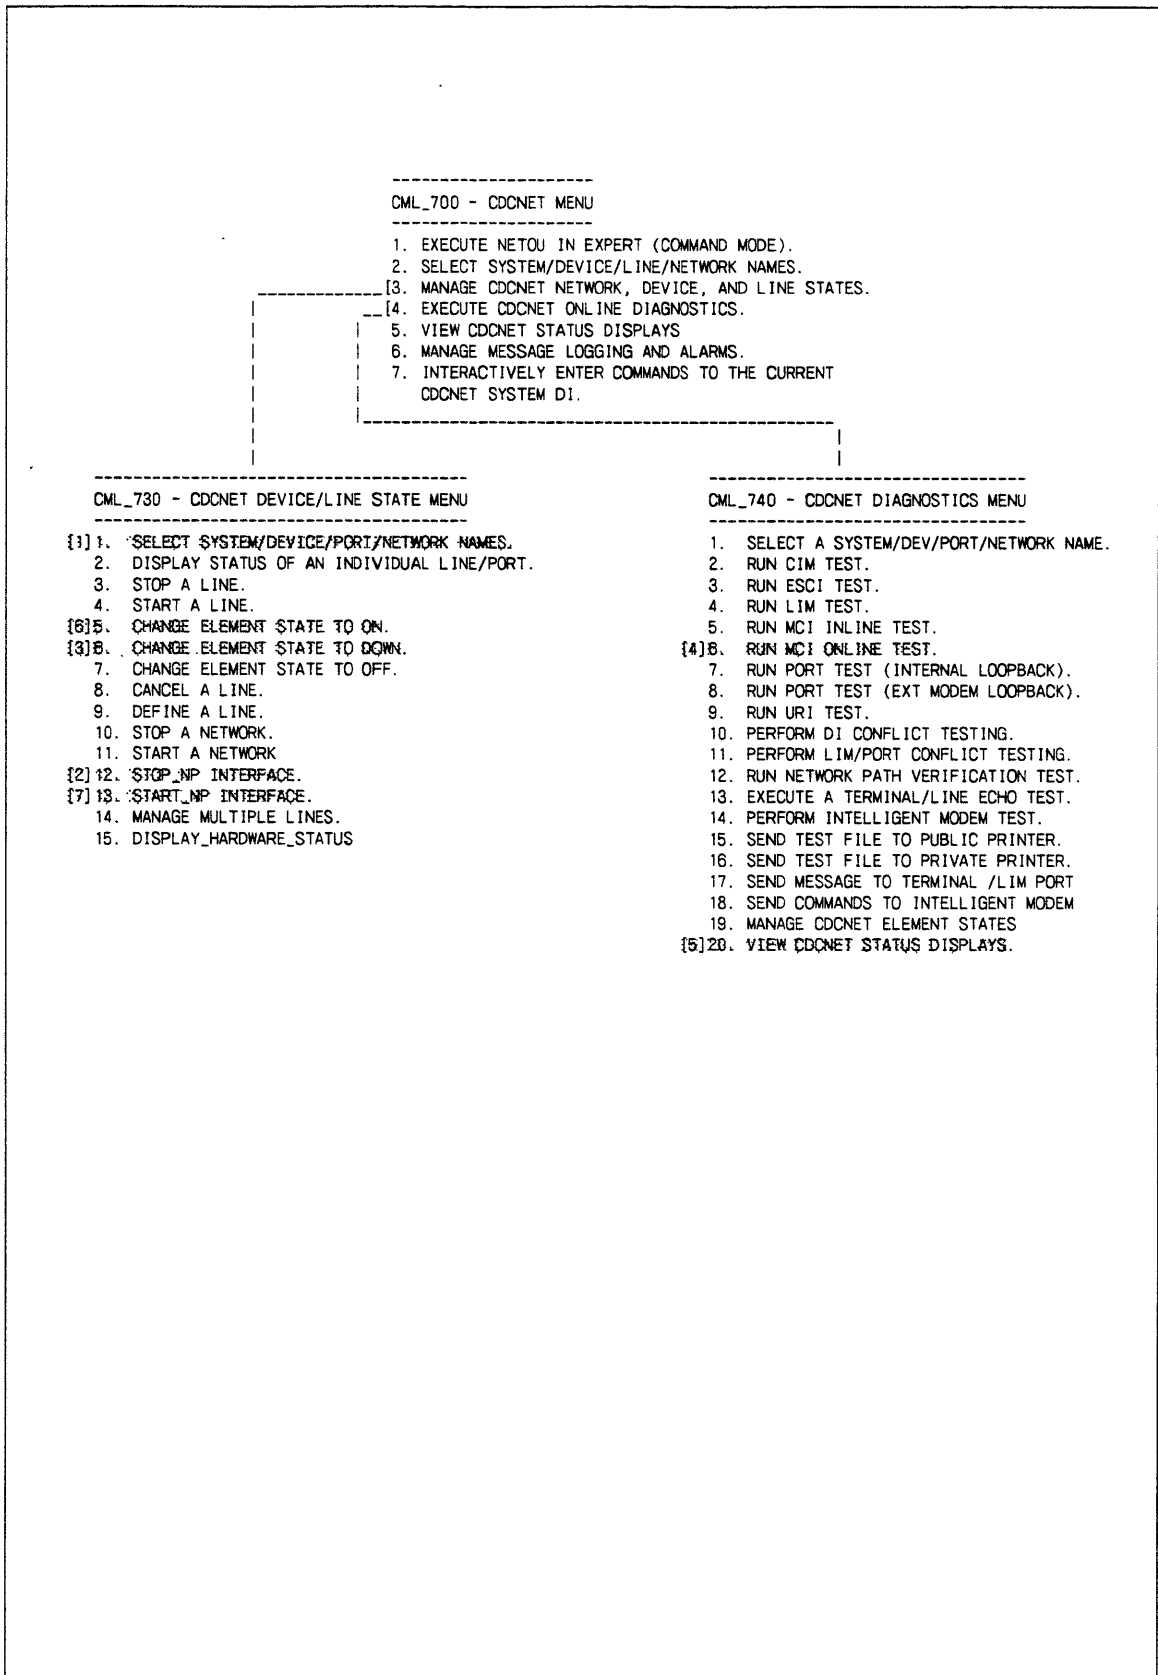

Figure 6-22. CML/VE Menus for MCI Online Test
The following shows the CML/VE menu choices necessary to run the MCI online test on an MCI connected to a NOS host. Each menu choice is shown on figure 6-22 and described below. The purpose of this topic is to serve as a quick reference for the most frequently used menu selections. See chapter 4 for a complete description of CML/VE. Familiarize yourself with the MCI test notes and procedure given earlier in this topic before running the test.
1. Numbers in this column correspond to the bracketed numbers (for example, [1]) on figure 6-22.